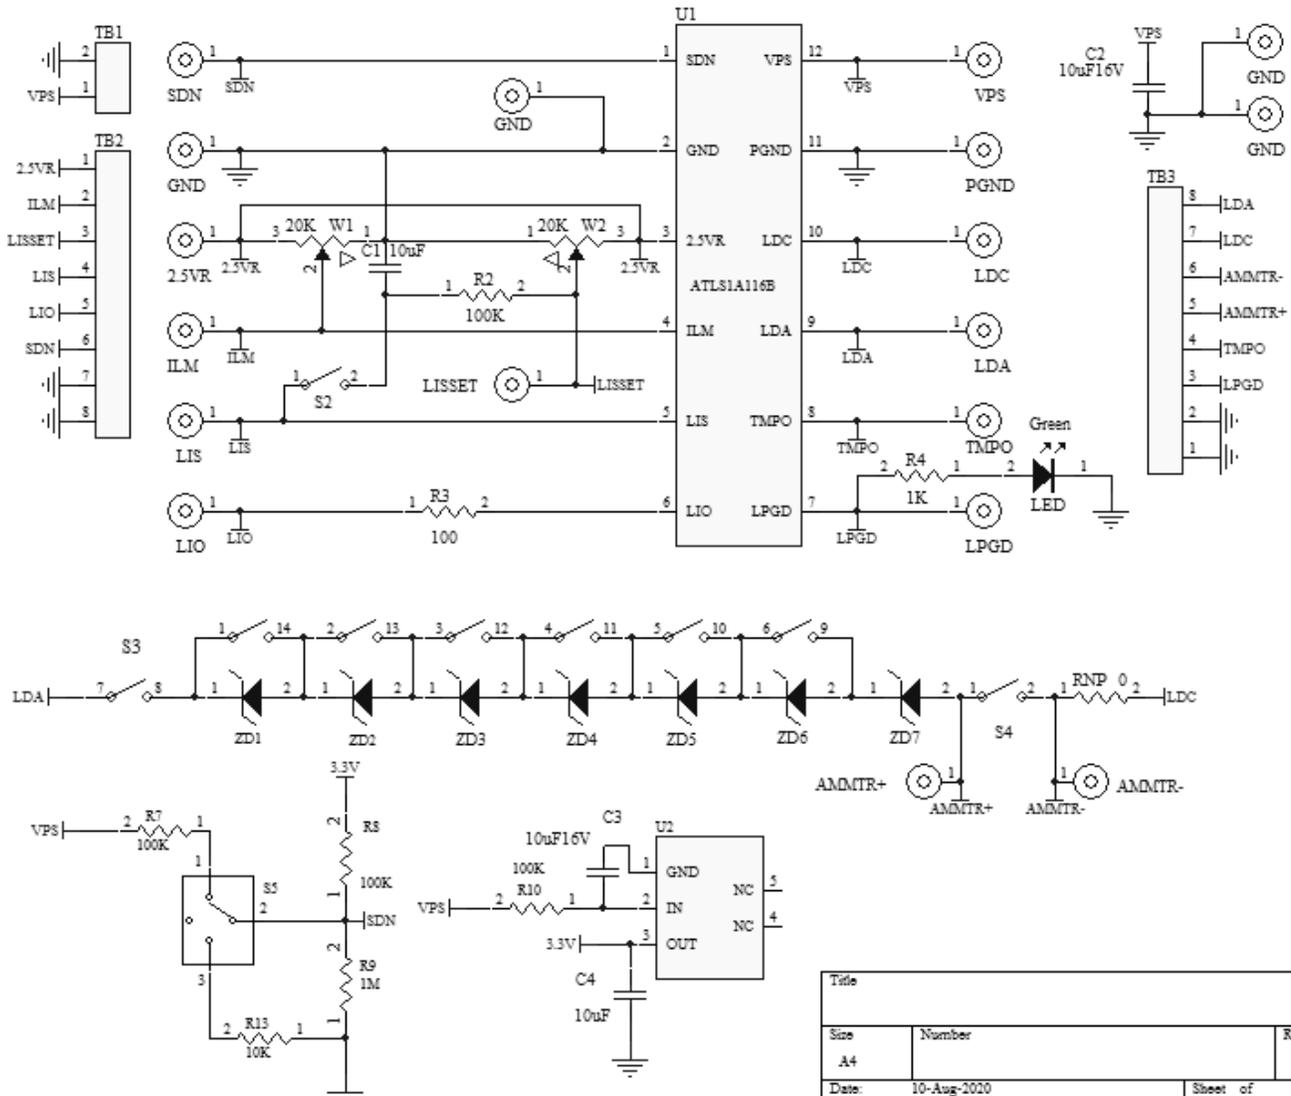

Figure 7. Schematic of ATLS100MA116DEV1.0
The schematic is shown in Figure 7 below.
- B. Turn the switch S1F to its lower off position, thus the output current goes through the ammeter and can be measured by reading Ammeter's value.; when the switch S1F is placed in the upper on position, the ampere meter is shorted, thus, it does not measure the output current, see the schematic shown in Figure 7.
6. Test the controller with the "dummy laser". The 5 diodes on the board, D1 to D5, can form a "dummy laser" to act as the laser diode in the place of a real laser so that in case there is a problem in the circuit, the expensive laser would not be damaged, see schematic in Figure 7. Turn the switch S1A to the on position (upper), to connect the "dummy laser" to the controller. Turning switches S1B, S1C, S1D and S1E, up and down will increase (turning down the switches) and decrease (turning up the switches) the forward voltage of the "dummy laser" which can be measured by a volt meter between the LDA and the ground. Each diode can increase or decrease the output forward voltage by about 0.7V when the output current is 1A. **Warning: when output 1A current, the diodes may get very hot, don't put your fingers on them.** The switch bank and their corresponding diodes are shown in the table below. The diode D5 is always activated so that the total forward voltage range is from 0.7V to 0.7V + 0.7×4 = 3.5V. Please be aware of this fact: when the output voltage is low by shorting circuit all the diodes, the controller will need to